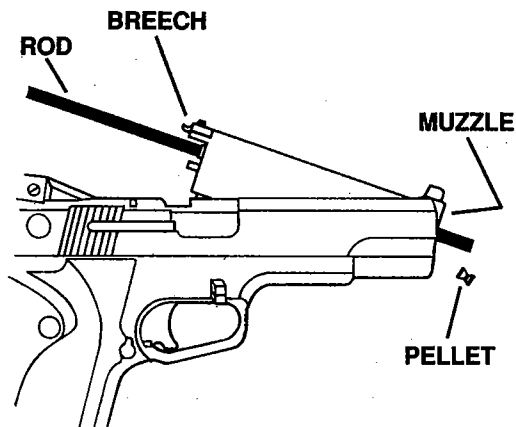

FIG. 6
- Push the pellet out the muzzle of the air pistol. (FIG. 6)